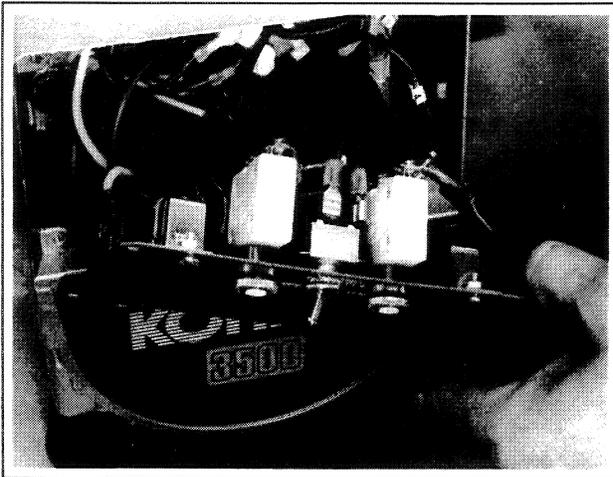

Figure 2-1. Removing Power Panel
1. Unscrew power panel from the end bracket, Figure 2-1.